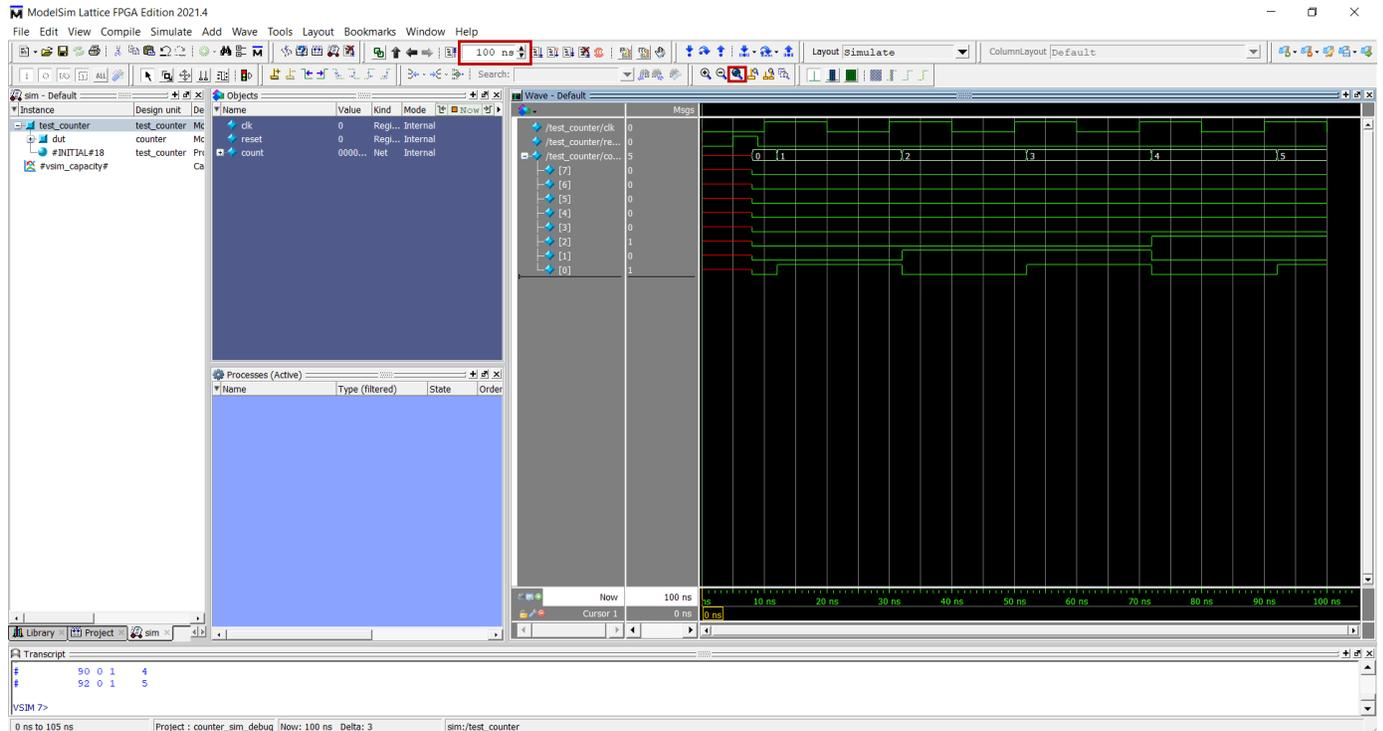

Figure 7: Zooming on the ModelSim Waveform
- From the **Objects** window, choose the top-level signals and drag them over to the **Wave** window. **Run** for 100 nanoseconds and the **Wave** window will display the timing diagram of the signals. Click **Zoom Full** to see the full picture, see **Figure 7**.